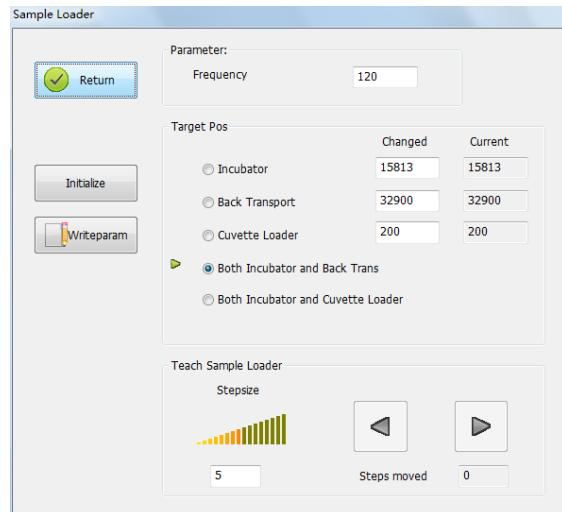

Figure A.7-2 [Sample Loader] Dialog
2. Click <Sample Loader> to enter [Sample Loader] dialog. Select **Both Incubator and Back Trans** in **Target Position** (Figure A.7-2). Then click <Return> button to return to [Maglumi Service] interface.